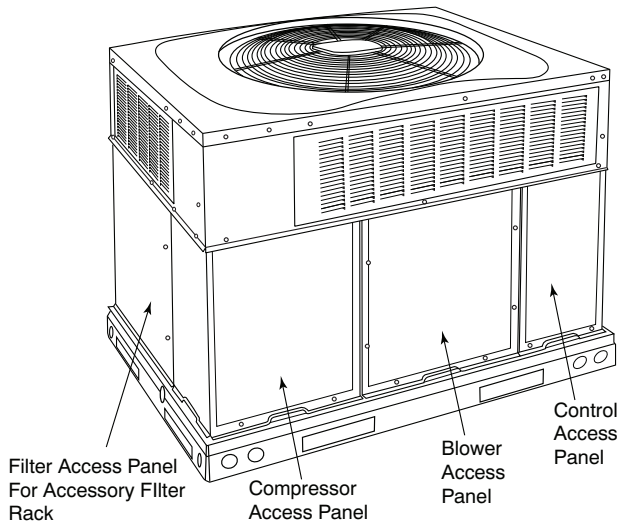

Fig. 2 - Unit Access Panel
Refer to Fig. 2 for location of unit front access panel. Refer to Fig. 3 for location of gas valve. Refer to Fig. 4 while proceeding with the following steps.
4. Remove the control access panel with a 5/16-in. nut driver. (See Fig. 2.)
4. Remove the control access panel. (See Fig. 2.)
To replace or inspect filters in accessory filter rack (See Fig. 2):